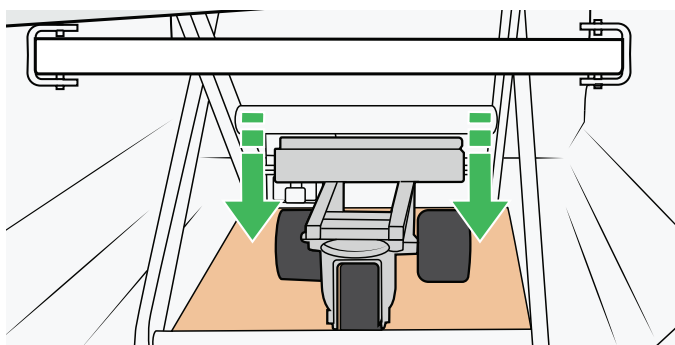

Figure 11
8. Lower the bathtub and make sure that the centre beam lands into the trolley. See Figure 11.